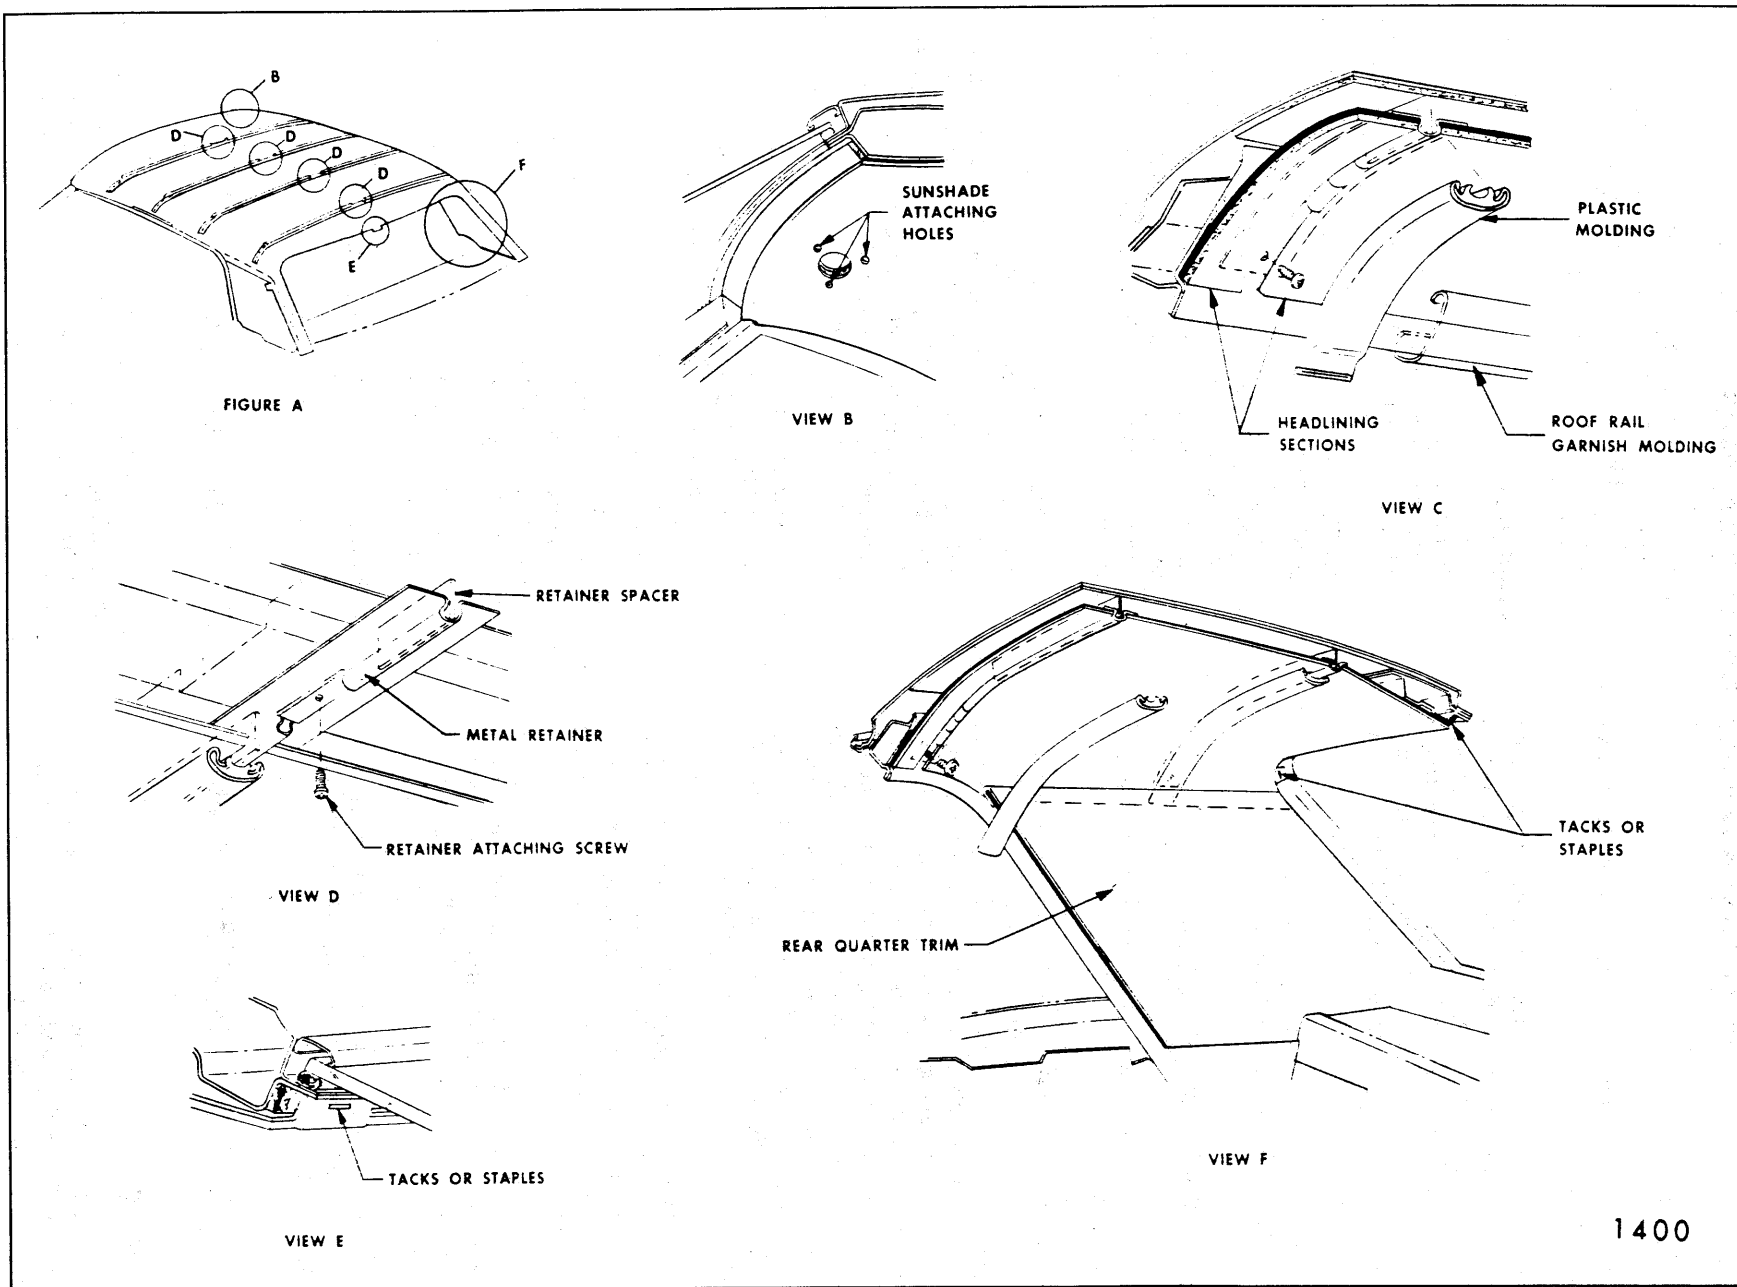

Fig. 11-4—Flocked Headlining Installation
3. With flat-bladed tool, carefully pry one end of plastic moldings from retainer (View "C", Fig. 11-4). Remove plastic moldings from both retainers securing section of headlining being removed.
6. When retainers are required to be removed, remove screws securing retainer to roof (View "D", Fig. 11-4). Retainer spacers are installed between the metal retainers and roof (View "D", Fig. 11-4).
1. If retainers were removed, make certain that retainer spacer shown in View "D", of Figure 11-4 is installed prior to installing retainers.
2. Install headlining sections by positioning one edge in retainer and centering section in relation to other sections and side roof rails; then carefully snap remaining edge in other retainer. Snap plastic molding over retainers (View "C", Fig. 11-4).
3. If installing rear section of headlining assembly, position forward edge of section in retainer. Center and align section in relation to side roof rails and back window opening and stay tack section in place. Recheck alignment; then starting at center of back window area, permanently tack section to tacking strips at back window opening (View "F", Fig. 11-4).
4. If installing front section of headlining assembly, position appropriate edge in retainer. Center headlining section in relation to other sections, side roof rails, and sunshade support attaching holes (View "B", Fig. 11-4). Install sunshade supports.